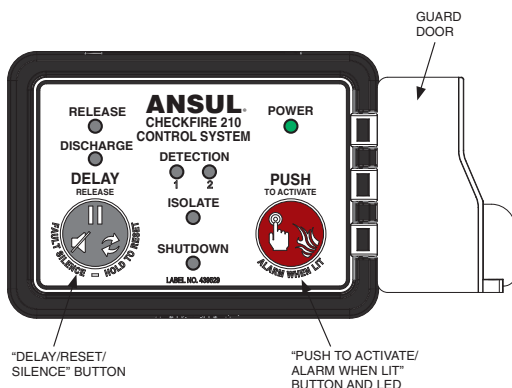

Figure 2-7-4 CHECKFIRE 210 Display Module
The operator may activate the system by pressing the red button on the CHECKFIRE 210 display module located to the right of the steering column, mounted to the right hand wall of the cab (see Figure 2-7-2 and Figure 2-7-4).
1. Swing the guard door open, press the red "Push to Activate" button on the CHECKFIRE 210 display module and then LEAVE THE VEHICLE (see Figure 2-7-4). Fire retardant will be released, the engine will shut down, and the batteries will be disconnected from the electrical system.